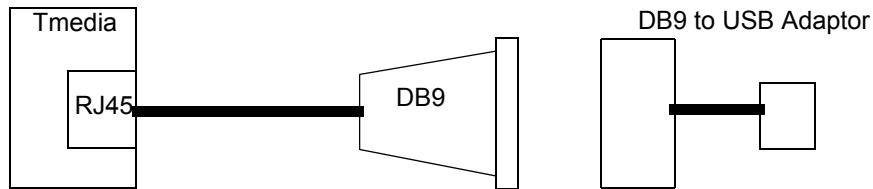

Figure 5.2 Conceptual View of a Serial Connection from the TMG5800 to a Computer
2. If your computer's serial port features a DB9 connector, use the DB9 to RJ-45 adapter supplied with your TMG5800. If your computer's serial port features a USB connector, you will need to provide a USB to DB9 adaptor. Refer to figure 5.2 on page 32.